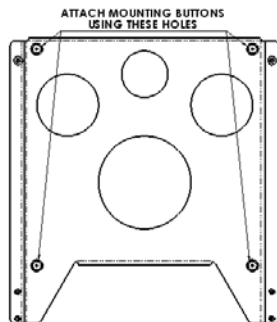
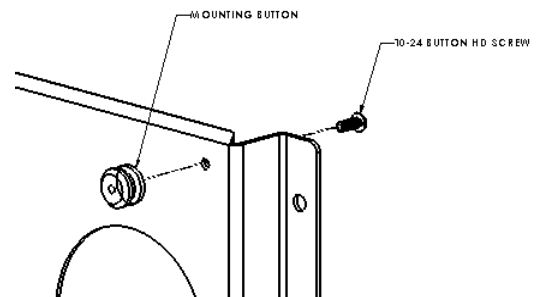

Figure 2
Figure 3
1. Using 10-24 button head cap screw inserted from backside of bracket, secure mounting button, with chamfered hole of mounting button (larger surface) facing bracket, to bracket (four places). See Figure 2 and Figure 3.